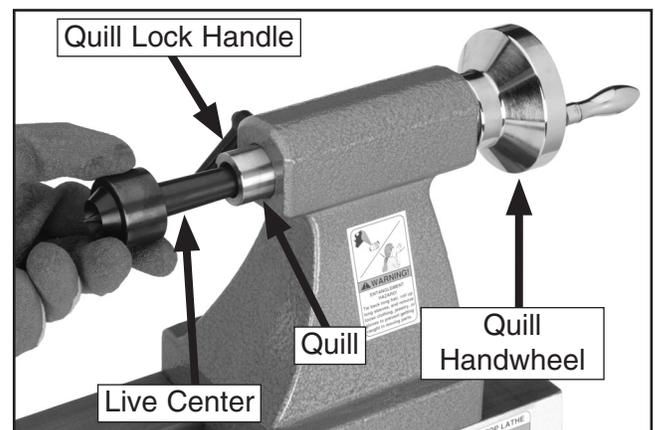

Figure 25. Live center installed in tailstock.
3. Insert the live center, as shown in **Figure 25**, and push firmly.